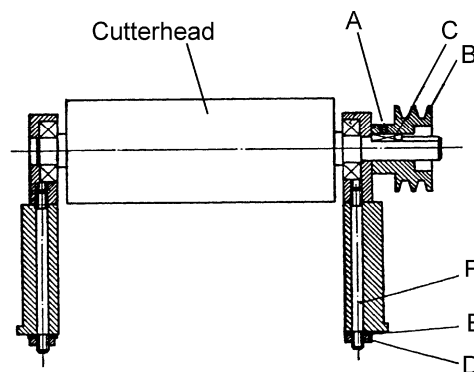

Figure 34
4. Loosen set screw (A, Fig. 34) using a hex wrench and remove the cutterhead pulley (B, Fig. 34) and key (C, Fig. 34).
5. Remove nuts (D, Fig. 34) and lock washers (E, Fig. 34).
6. Lift assembly straight up. Studs (F, Fig. 34) will still be attached to the bearing housings.